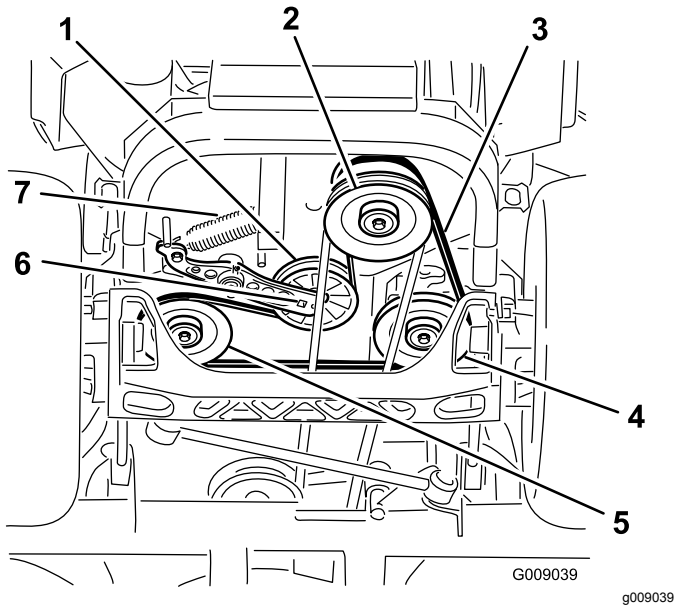

Figure 83
4. Raise the machine and support it with jack stands (Figure 83).
5. Use a ratchet in the square hole in the idler arm to remove the idler spring (Figure 83).
6. Unhook the idler spring from the frame (Figure 83).
9. Using a ratchet in the square hole in the idler arm, install the idler spring to the frame (Figure 83).